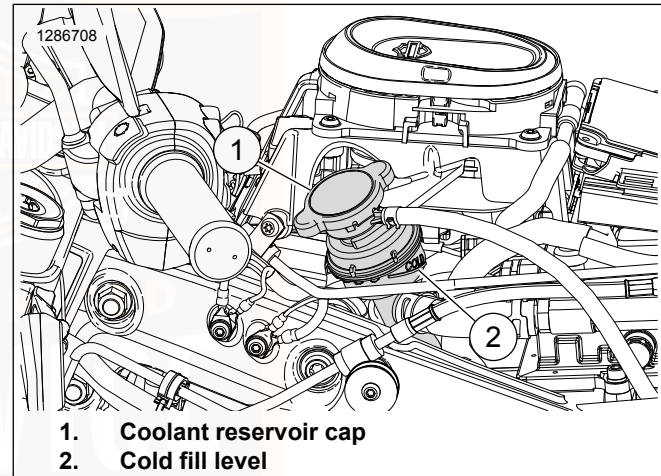

Figure 55. Coolant Reservoir
4. See Figure 55. Check that coolant level is at or slightly above the "COLD FILL" line (2).